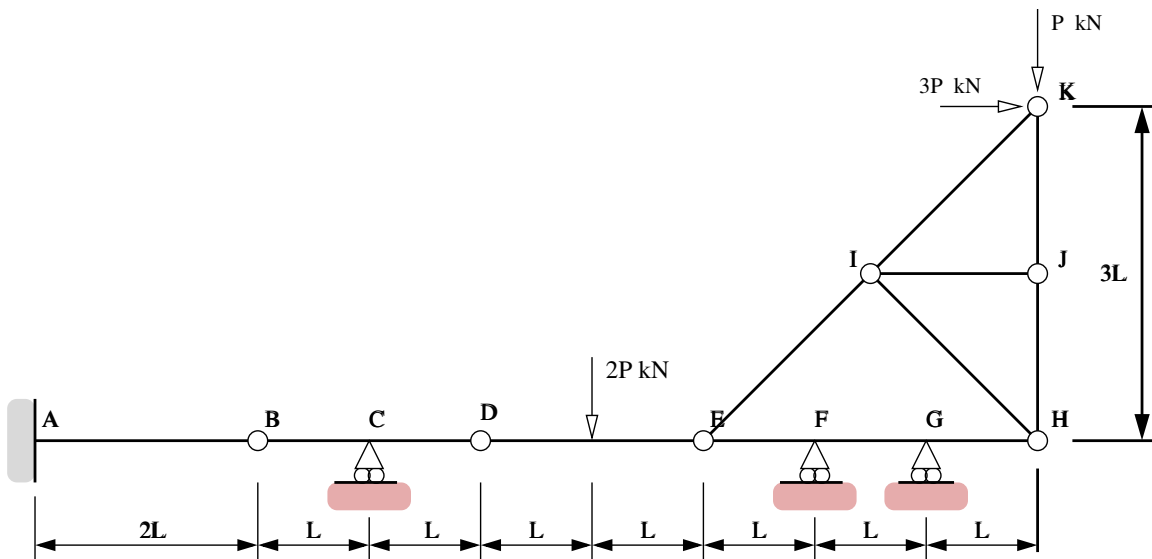

Figure 1: Front elevation view of multi-span beam structure.
Consider the combined multi-span beam/truss structure shown in Figure 1.
The cantilever is fully-fixed to the wall at Point A. Points B, D, E and H are hinges. Horizontal and vertical point loads $3P$ (kN) and P (kN) are applied to the truss as shown in Figure 1.
- [1b] Identify the zero-force members in the truss structure. You can simply mark them up on Figure 1.